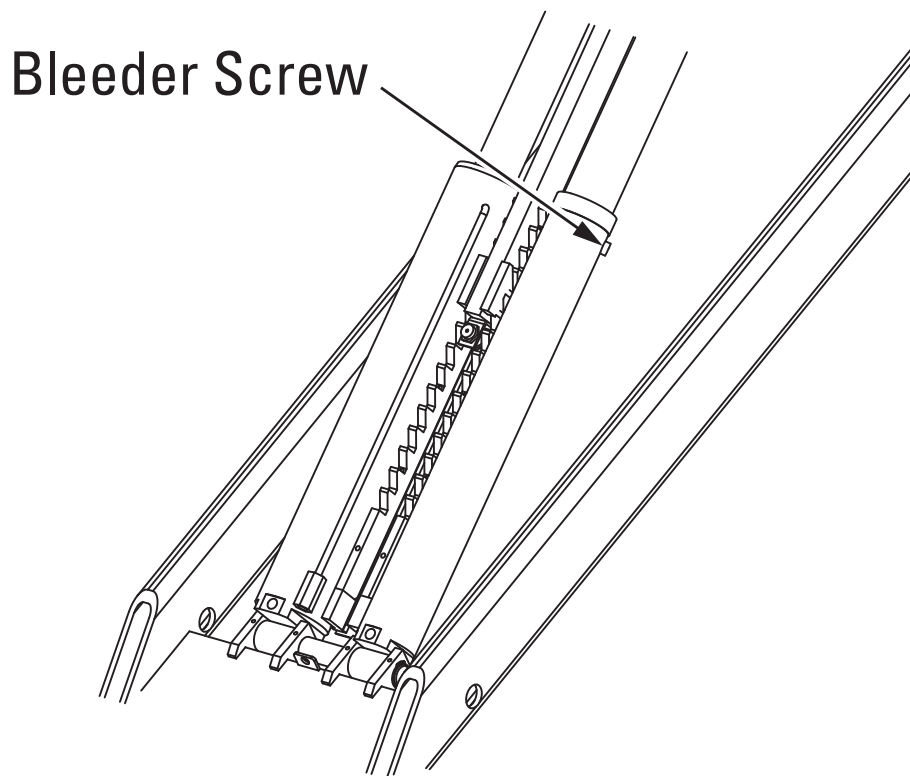

Fig. 2.1
- Open the bleed screws (1) on the slave cylinder as shown in Fig. 2.1 and close them again after bleeding air from the cylinders. Press the lifting button again, then open the bleed screws again (1) Fig. 2.1 to bleed air from the cylinders.